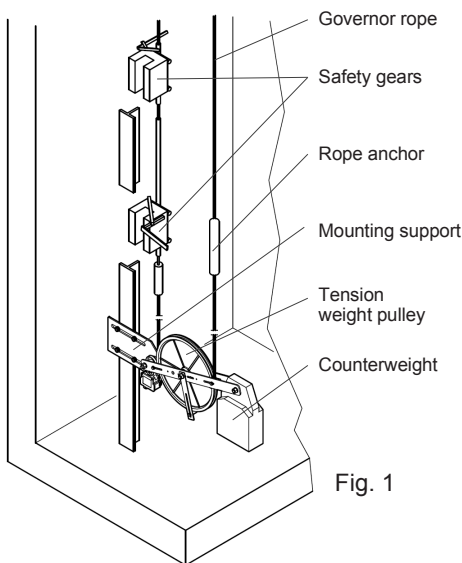

Fig. 1
- in no case, the counterweight must touch the floor (fig. 1 and 3), otherwise, the function of the overspeed governor is put out of operation;